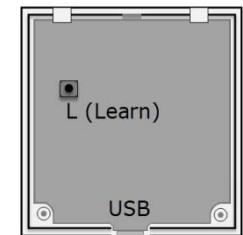

Figure 5
NOTE: EnOcean devices have a "Learn" button. Learn buttons are typically accessed through a small hole on the side or back of the device (see Figure 5). Learning EnOcean devices in and out of the model 17200 RCN is accomplished using buttons and LED indicators on the 17200 PCB and then pressing the Learn button on the EnOcean device.
4. Short button press (<1 sec) of the "learn button" on the back side of the thermostat, see Figure 5. (Short press, don't hold the learn button.)